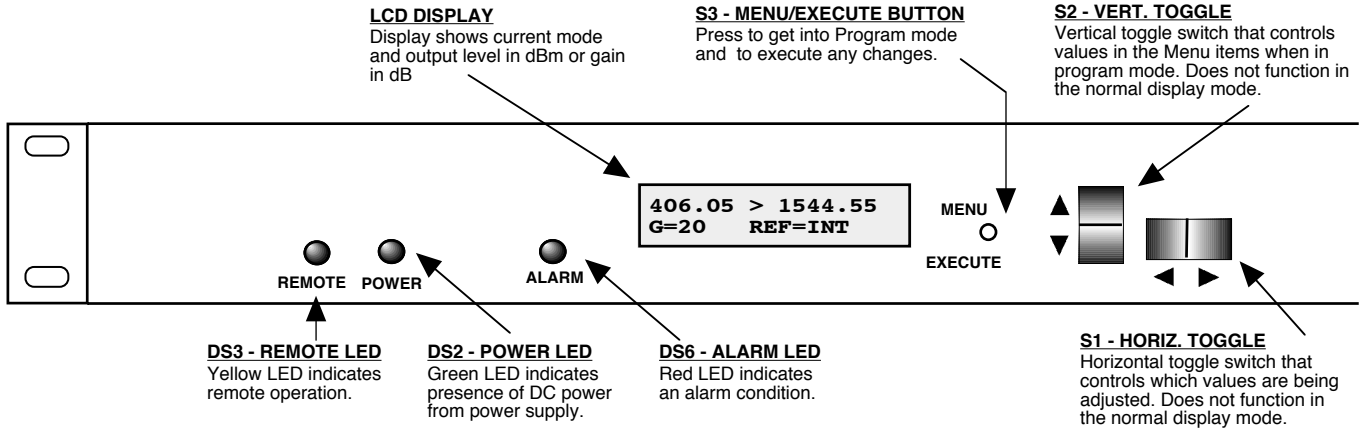

FIGURE 2.2 2083-0415# Front Panel Indicators
Figure 2.2 shows the front panel indicators.
4. Be sure DS2 (green, DC Power) is on and DS6 (red, Alarm) is off (Figure 2.2).
Alarm indications appear on the LEDs (see figure 2.2).